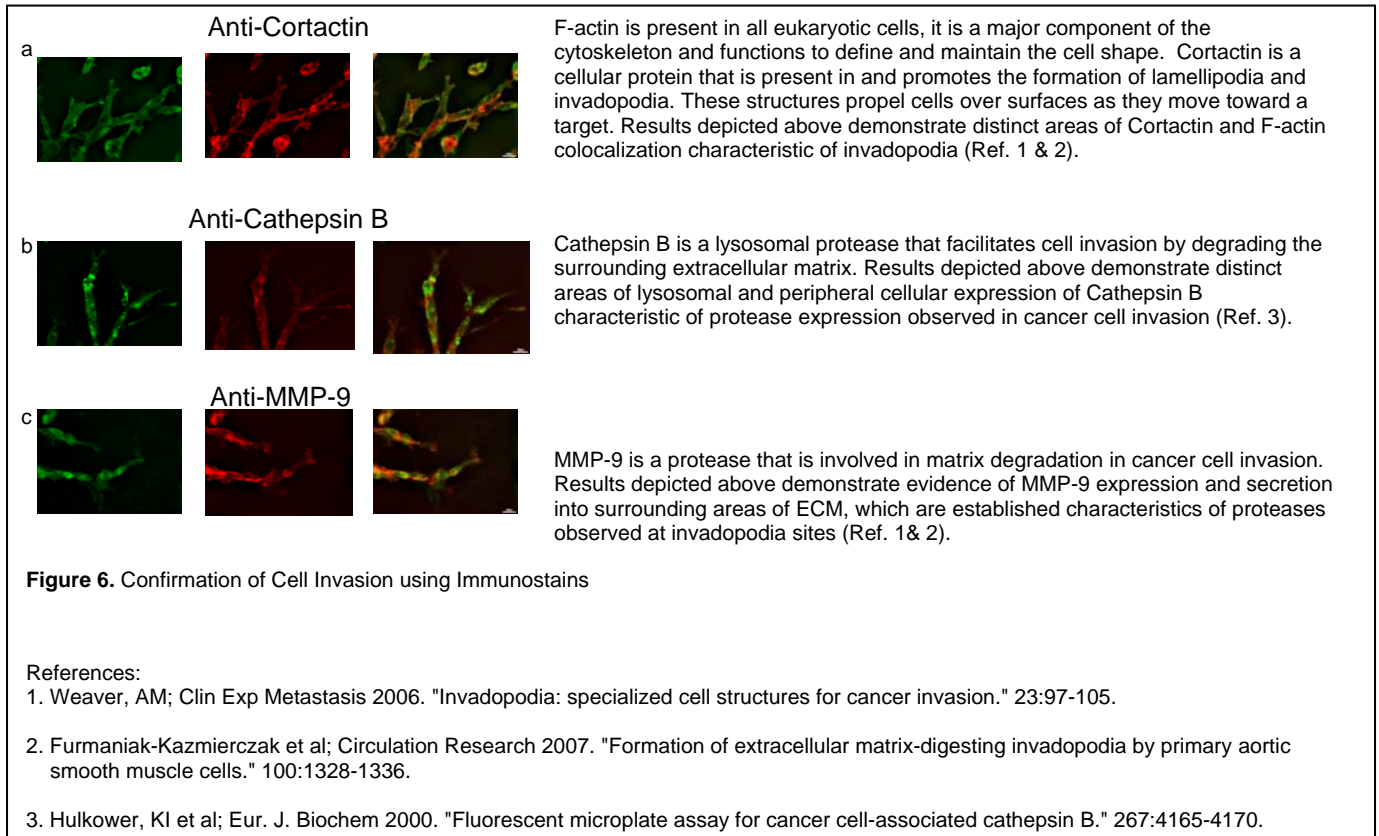

Figure 6. Confirmation of Cell Invasion using Immunostains
- As determined by immunostaining (shown in Figure 6), the structures projecting into the BME formed by the invasive HT-1080 cells exhibited classic hallmarks of invadopodia, namely colocalization of F-actin with cortactin (panel a), and the expression of proteases such as MMP-9 and cathepsin B (panels b and c). These invadopodia could also be observed in 3-dimensions at different focal points along the z-axis. This is in contrast to any migratory activity observed by non-invasive cells that occurs only within the 2-dimensional space of the x and y axes (data not shown).
5. Following cell attachment, remove the Oris™ Cell Seeding Stoppers from each well (see Figure 6) and **gently** wash the wells with PBS to remove non-adhered cells.